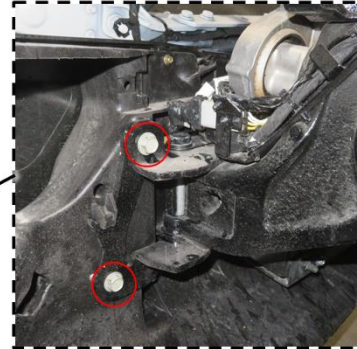

Figure 1a:
2. Remove the OEM Front Bumper by accessing the fasteners as shown in Figure 1a.